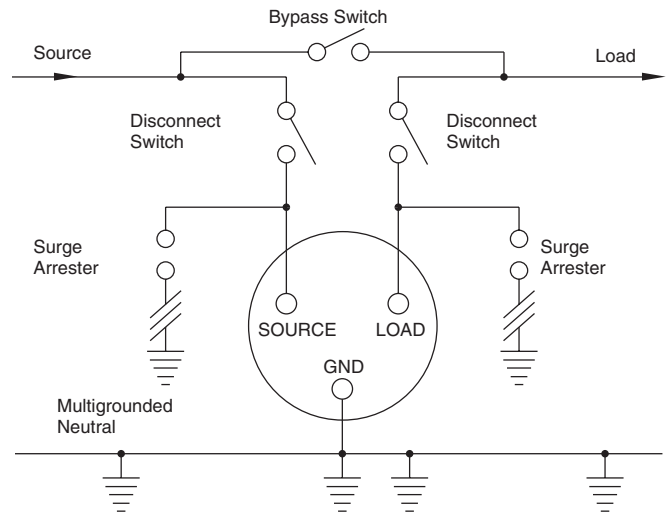

Figure 10. Connection diagram shows complete surge protection and illustrates switches to facilitate maintenance.
8. Make the high-voltage line connections. Connect high-voltage lines to the recloser bushing terminals as shown in Figure 10. The source lead must be connected to the source-side bushing, which is located adjacent to the sleet hood. To facilitate connection, the cover of the recloser can be rotated in 90-degree increments with respect to the tank and its mounting bolts. The universal clamp-type terminals accept no. 6 through 350 mcm conductors.
9. Provide bypass and disconnect switches. The two disconnect switches and the bypass switch shown in Figure 10 are not required, but they do facilitate maintenance.
10. Provide surge protection. Surge protection on both sides of the recloser is advisable (Figure 10). However, if protection is provided on only one side, it should be located on the source side for line installations and the load side for substation installations.
Always follow locally approved procedures and safety practices when placing the recloser in service. Be sure that the control battery is properly connected. When the recloser is connected and source-side high-voltage lines are energized (by closing the source-side disconnect switch), the recloser can be placed in service. Refer to the connection diagram in Figure 10.